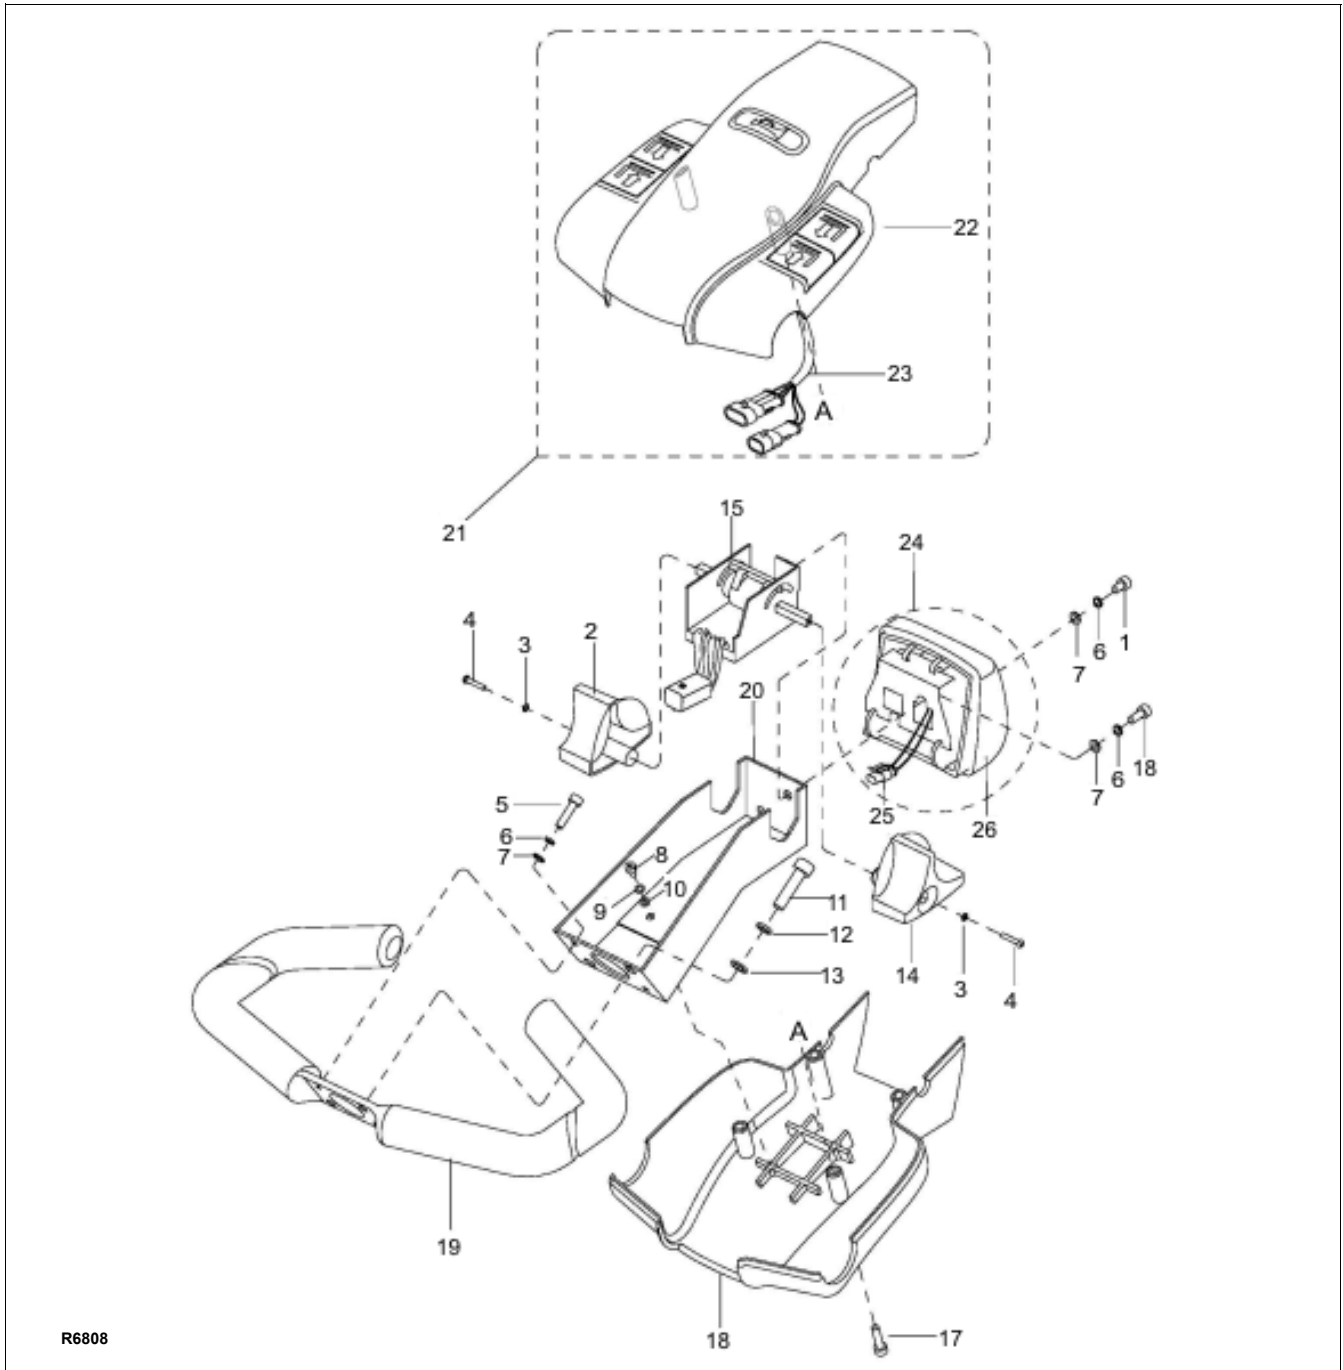
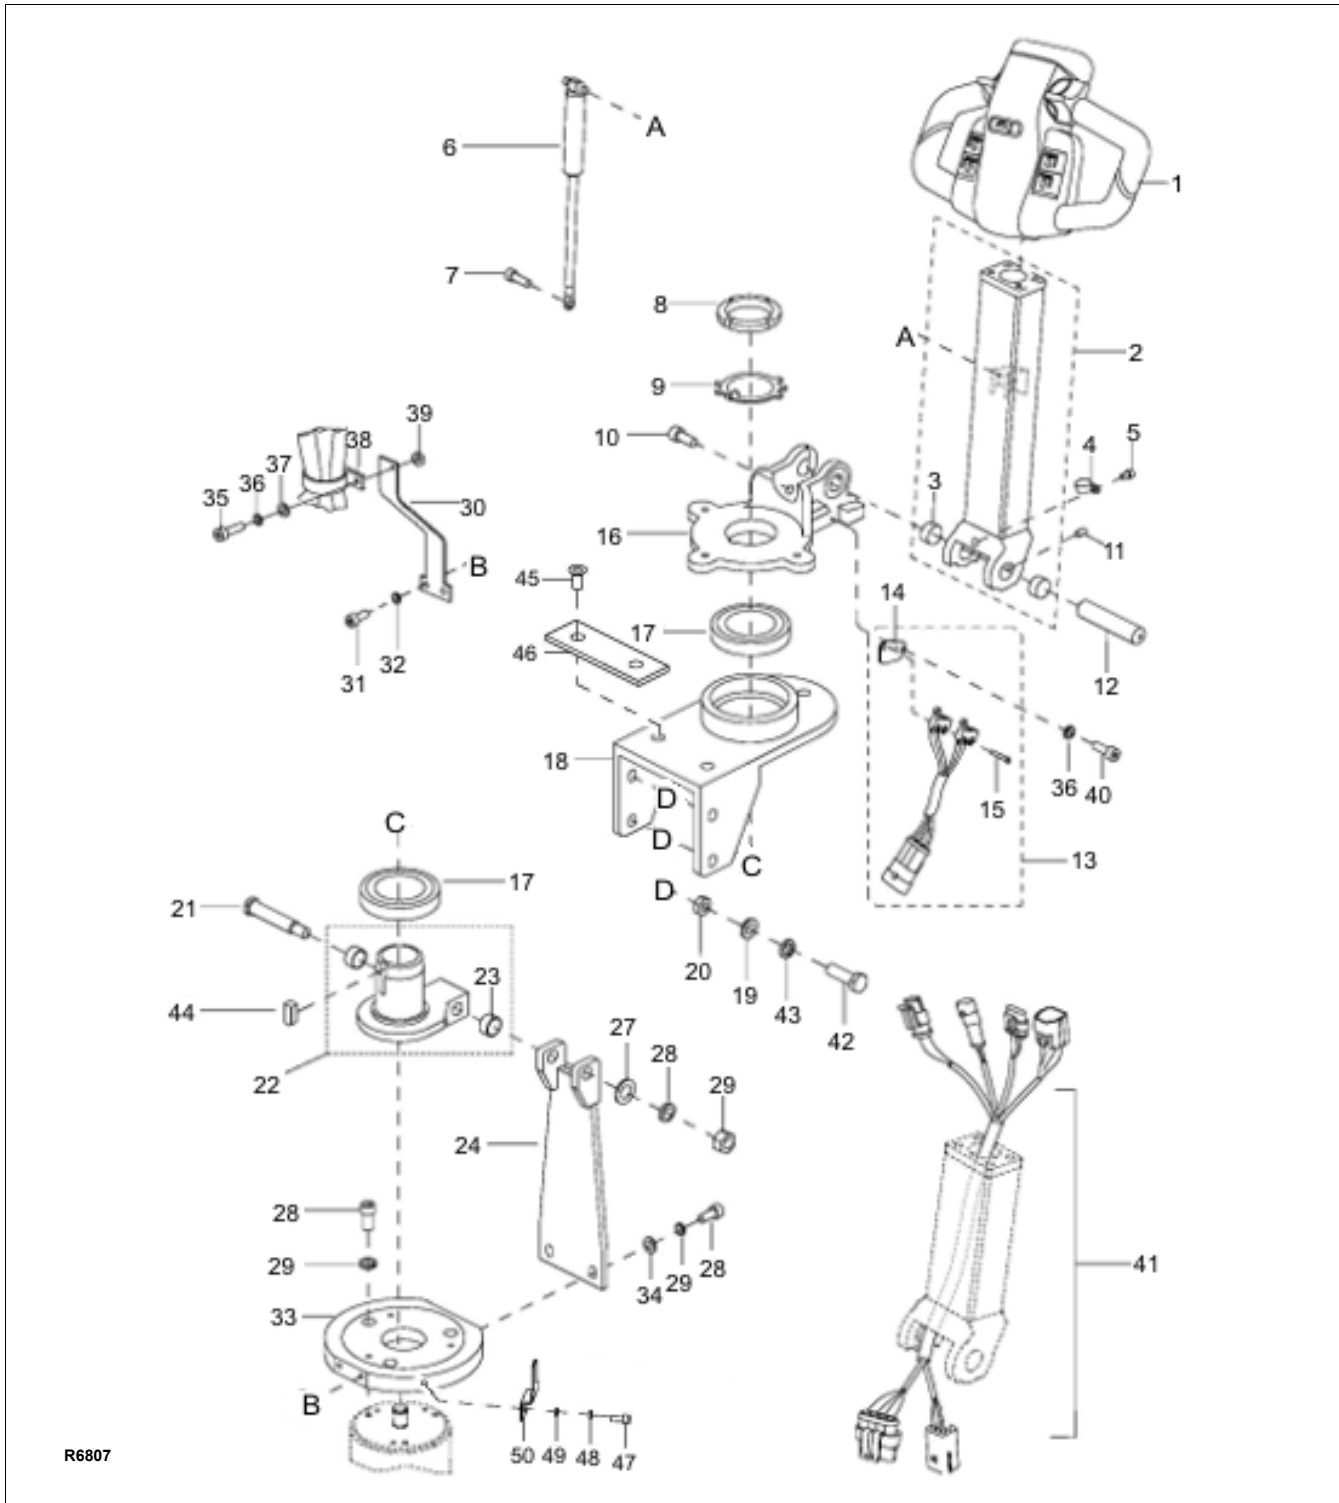

Figure 5-1 Control Head
Figure 5-2 Steering Arm
2. Remove four screws (17, Figure 5-1), lift up cap assembly (21) and disconnect harness (23) from harness (41, Figure 5-2).
1. Hold cap assembly (21, Figure 5-1) in place and connect harness (23) to harness (41, Figure 5-2).
2. Position cap assembly (21, Figure 5-1) on control head and secure with four screws (17).
2. Disconnect harness (41, Figure 5-2) from potentiometer (16, Figure 5-1) and reversing switch (25).
3. Remove two screws (11), two lock washers (12) and two flat washers (13).
1. Hold control head and handle (19, Figure 5-1) in place and install two screws (5), two washers (6) and two flat washers (7).
2. Install two screws (11), two lock washers (12) and two flat washers (13).
3. Reconnect harness (41, Figure 5-2) to potentiometer (16, Figure 5-1) and reversing switch (25).
2. Disconnect harness (41, Figure 5-2) from potentiometer (15, Figure 5-1).
3. Remove screw (4), washer (3) and control knob (2) from potentiometer (15).
4. Remove screw (4), washer (3) and control knob (14) from other side of potentiometer (15).
5. Remove screw (1), lock washer (6) and flat washer (7).
6. Remove screw (16), lock washer (6) and flat washer (7) and remove potentiometer (15) from bracket (20).
7. Position new potentiometer (15) in bracket (20) and secure with screw (16), lock washer (6) and flat washer (7).
8. Install screw (1), lock washer (6) and flat washer (7).
9. Install control knob (14) on potentiometer (15) and secure with screw (4), and washer (3).
10. Install control knob (2) on the other side of potentiometer (15) and secure with screw (4), and washer (3).
11. Connect harness (41, Figure 5-2) to potentiometer (15, Figure 5-1).
2. Disconnect harness (41, Figure 5-2) from reversing switch (25, Figure 5-1).
3. Remove screw (1), lock washer (6) and flat washer (7).
4. Remove screw (16), lock washer (6) and flat washer (7) and remove switch assembly (24) from bracket (20).
6. Remove two pins (3) and switch assembly (25, Figure 5-1) from bracket (4, Figure 5-3).
7. Position the new switch assembly (25, Figure 5-1) in bracket (4, Figure 5-3) and secure with two pins (3).
8. Position bracket (4) in button (1) and install pin (5).
9. Position switch assembly (24, Figure 5-1) on bracket (10) and secure with two screws (13).
10. Reconnect harness (41, Figure 5-2) to reversing switch (25, Figure 5-1).
The steering arm gas return spring (6, Figure 5-2) is replaced while the steering arm (2) is in the upright position.
2. Disconnect harness (41, Figure 5-2) from harness (1, Figure 12-27).
3. Attach a hoist to steering arm (2, Figure 5-2).
4. Remove screw (11), shaft (12) and the steering arm (2).